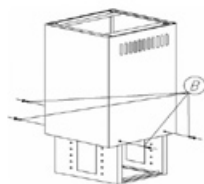

Fig. 8
4. Mount the upper chimney cover on the ceiling holder (Fig. 8), and fix it using the screws (B).